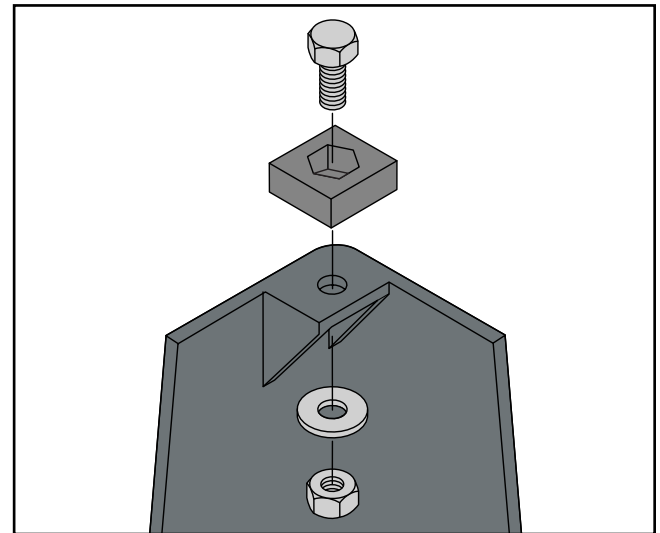

Figure 9. Installing the rubber feet.
1. Fasten the rubber feet to the leg bottoms using M10-1.5 x 25 hex bolts, 10MM flat washers and M10-1.5 hex nuts as shown in **Figure 9**.